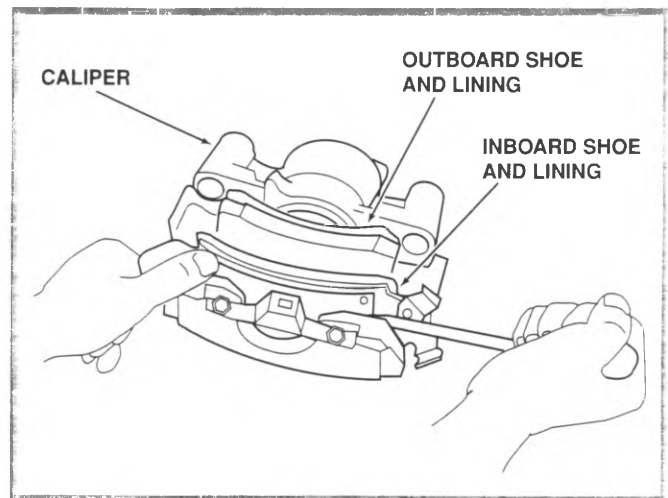

Figure 6-11, Remove Outboard Shoe
2. Remove the outboard shoe and pad (figure 6-11). Use a screwdriver to disengage the buttons on the shoe from the holes in the caliper housing.